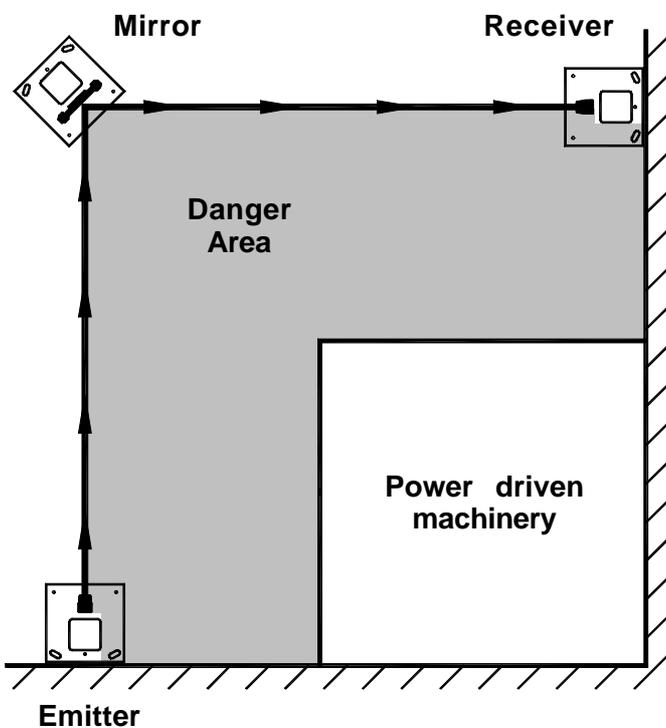

Figure 9 - 'L' shaped protection (when the curtain protects two sides with the addition of one mirror unit).
3.4.1 TWO SIDED APPLICATION (FIGURE 9)